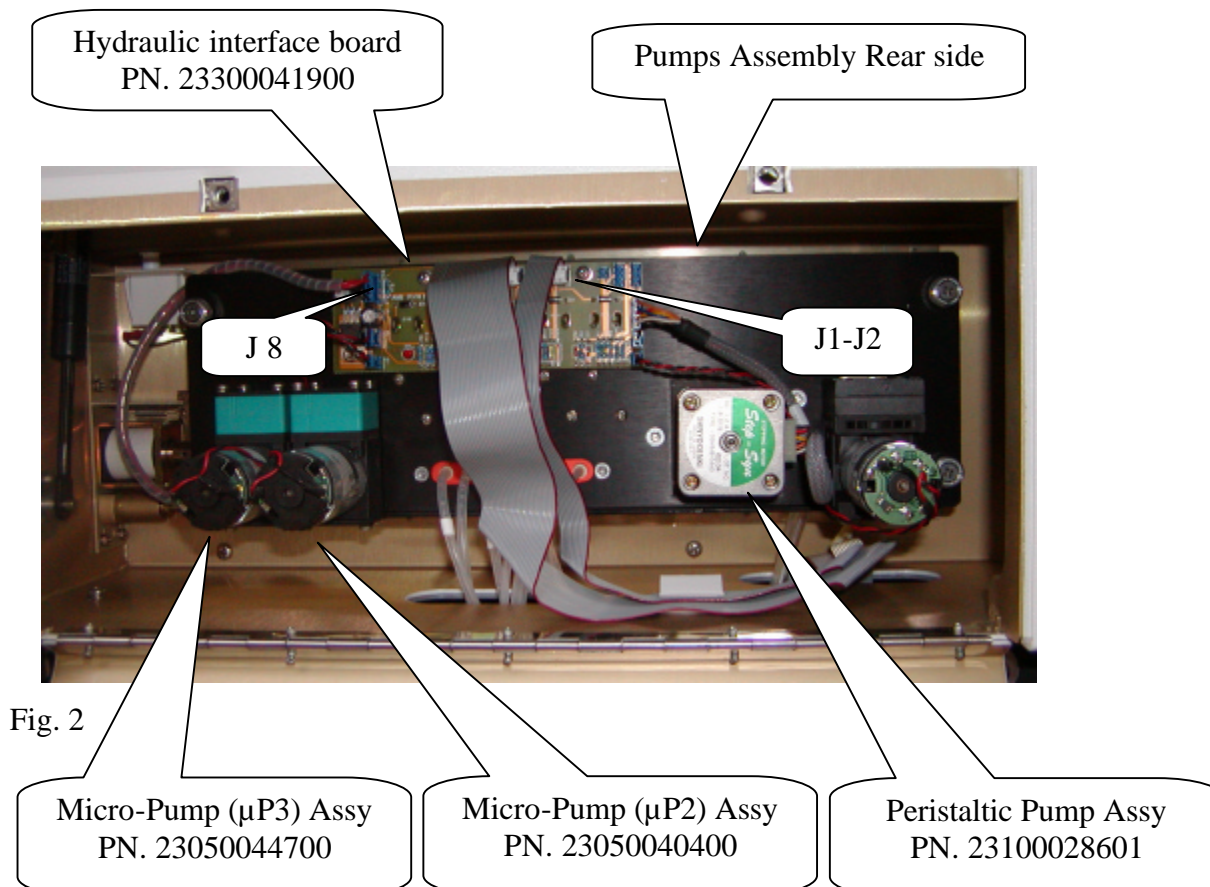

Fig. 2
3. Unscrew the 4 fastening screws on the reaction plate assembly (Fig.2).
4. Remove the J1 connector and the ground wire from the Reaction Chamber Motor Interface board (Fig.2).
5. Remove the J1, J14 connectors and the ground wire from the Reaction Plate Interface board (Fig.2).
1. Unscrew the two knobs to remove the door located on the front elevation of the instrument (Fig. 1) and the two noticeable screws located on the rear panel (Fig. 2) to access the washing pump assembly.
2. Disconnect connectors J1, J2 e J8 from the Hydraulics Interface board (rear side Fig.2)
5. Unscrew the four screws which hold the Pumps Assembly. Remove it from its site (rear side Fig.2) and replace the Assembly with the new one.
3. Disconnect the connector J6 from the Hydraulics Interface Board (Rear side Fig.2)
3. If necessary, unscrew the four anchored screws of the assembly and turn it ahead (Fig.2).